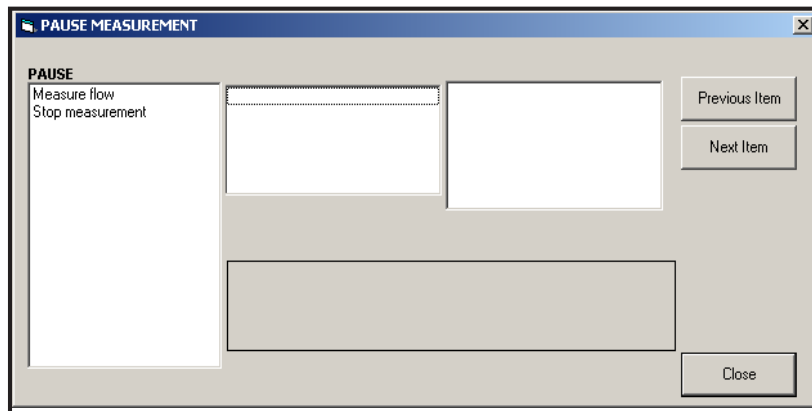

Figure 19: The *Pause Measurement* Window
2. Expand the *Edit Functions* option, and double-click on the *Pause Measurement* entry. A window opens similar to *Figure 19* below.